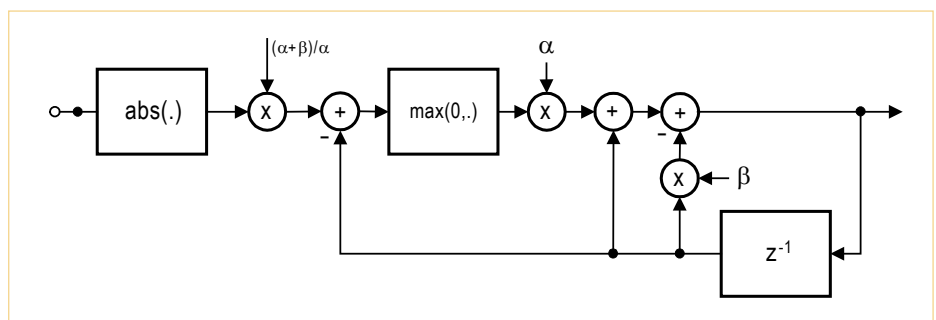

Figure 3. Digital peak value rectifier with time constants.
**Figure 3** shows the signal processing in the ballistic rectifier. The block labelled 'abs(.)' corresponds to a full-wave rectifier, the quantities  $\alpha$  and  $\beta$  determine the time characteristics, and the block labelled 'max(0,.)'